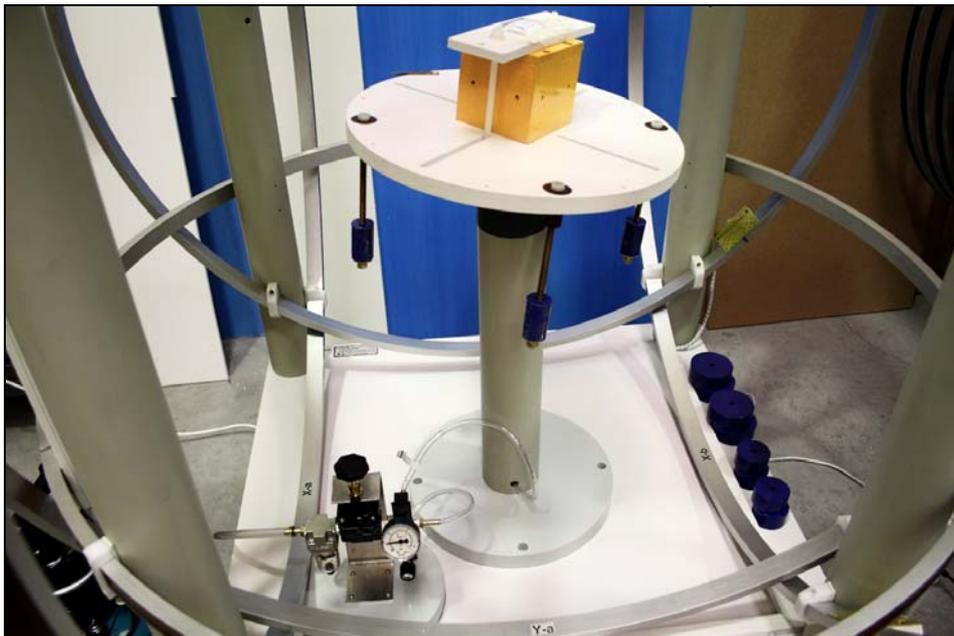
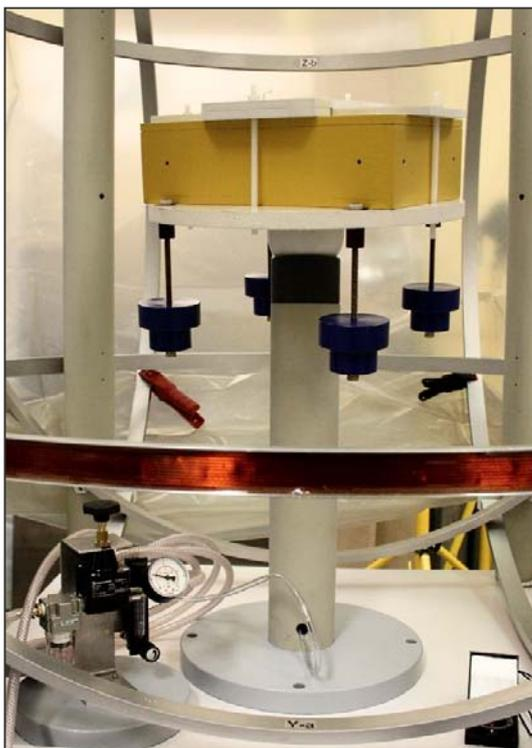

Fig. 4: A view of the assembly with accessories, with a mock-up of a CubeSat of one unit (1U), in Yellow. Installed in a set of coils Ferronato BH1300-3-A.
Fig. 6: Assembly with a mock-up of CubeSat 6U.
Set of four brass rods of 8 mm in diameter by 200 mm in length (M8 x 200), M8 x 1.25 threaded, with the nuts in brass and Nylon. These can be seen in Fig 4 and 6.
Set of four cylindrical lead weights, of 285 grams each one. These can be seen in use in Fig. 4.
Set of four cylindrical lead weights, of 740 grams each one. These can be seen at right in Fig. 4 and in use in Fig. 6.
Set of four cylindrical lead weights, of 1580 grams each one. These can be seen at right in Fig. 4 and in use in Fig. 6.
Note 1: The counterpoises can be used combined, by placing two or three on same rod, as can be seen in Fig. 6.
It should be placed as near as possible to the DUT stand. It can be seen in Fig. 5 and at bottom left of Fig. 4 and 6. It is made mostly from non-magnetic material, with unnoticeable effect on the magnetic field at the centre. It is constituted by a 5 μ air filter at the input, followed by a precision low pressure regulator, a manometer to measure the output pressure and a flowmeter. It allows a fine adjustment of pressure and airflow, keeping a constant pressure at the output. It avoids oscillations in the supplied pressure and airflow. Maximum input pressure: 10 bar (1000 kPa).
Purposed to use the ULTAS-1 in our coils BH1300-3-A. With a total height of 490 mm, it allows to centre the DUT in the coils. See Fig. 4 and 6. Four M6 screws on its base can fix it. The air hose can enter by a hole near its base and run through its interior.
- For CubeSat 1U: one board with two rods and its nuts. See Fig. 4.
- For CubeSat 6U: two boards with two rods each and its nuts. To be used crossed. See Fig. 6.